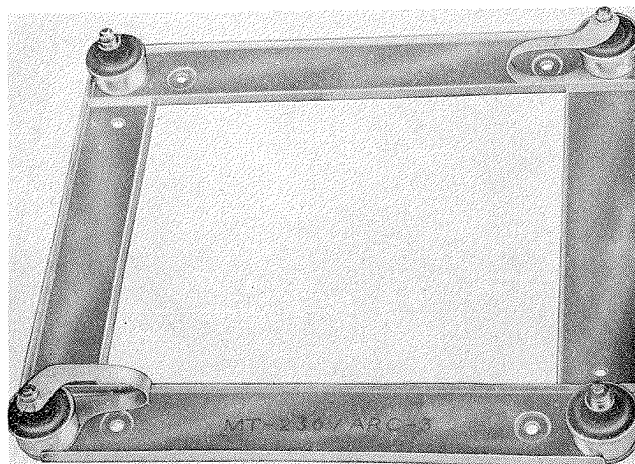
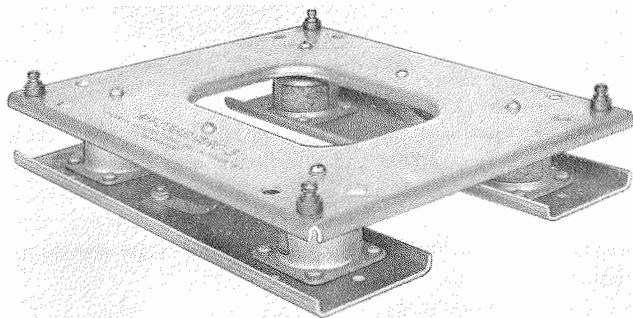

Figure 1-23. Mounting Base MT-236/ARC-3
Figure 1-24. Mounting Base MT-236B/ARC-3
(6) Mounting Base MT-236B/ARC-3 (See fig. 1-24) is supplied for shock-mounting the power junction box. Mounting Base MT-236/ARC-3 (See fig. 1-23) or MT-236A/ARC-3 may be used interchangeably with MT-236B/ARC-3.